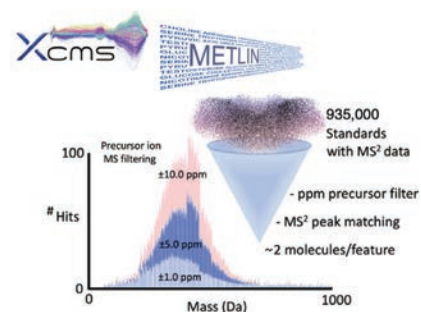

Figure 4. The flood of 2017 caught on video, filled the lab with 10,000 liters of water.
- Automating data acquisition and maintaining data quality: high-throughput analysis capabilities emerged after a major lab flood in 2017 destroyed several of our instruments. Ironically, this disaster enabled us to rebuild with even better equipment and higher efficiency, translating into quality data generation during high throughput analyses (Figure 4).